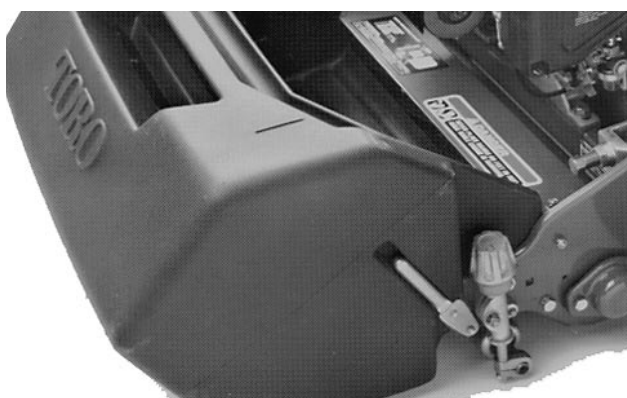

Fig. 11
1. Grasp the basket by the top rear lip and slide it onto the basket mounting rods (Fig. 11).